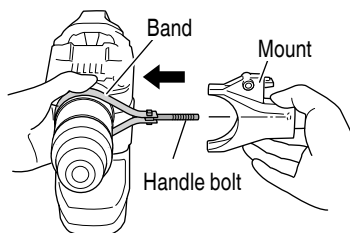

Fig. 13
- (3) As you hold the band to make sure the handle bolt won't come loose, insert the handle bolt into the mount. (Fig. 13)